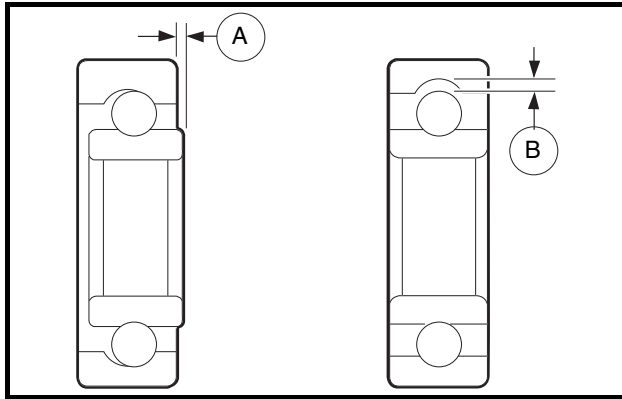

Figure 14-8 Bearing Play Inspection
1. Using a clean cloth, wipe the carbon dust from the two bearings. Inspect bearings by spinning them by hand and checking for both axial (A) and radial (B) play (**Figure 14-8, Page 14-5**).